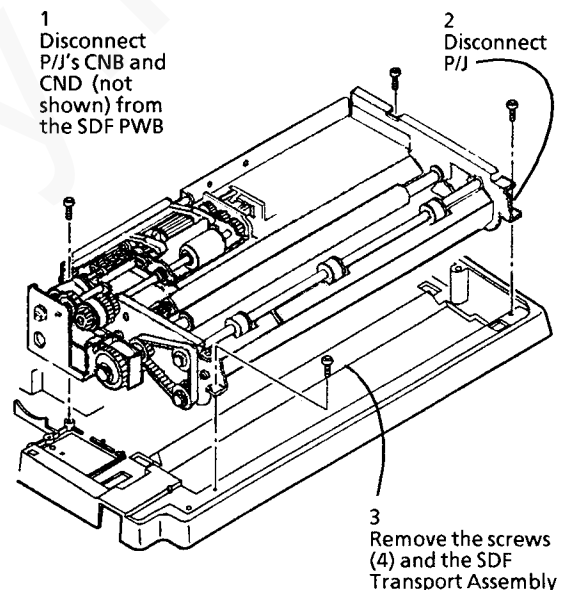

Figure 1. Removing the Transport Assembly
4. Remove the Transport Assembly (Figure 1).